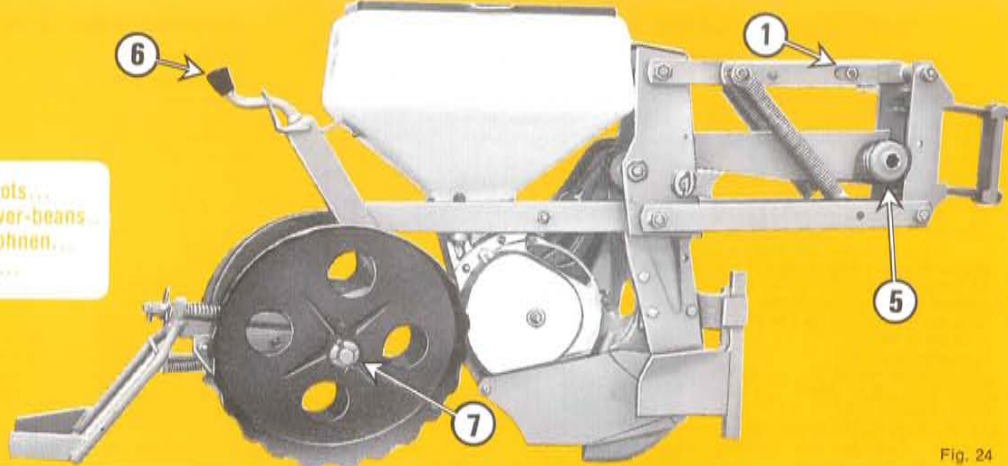

Fig. 24
VERSION de base A type MAÏS (fig. 24)
BASIC VERSION « A » : CORN-MODEL (fig. 24)
- on the corn version (fig. 24 - 27 - 28) this pin remains in position (normally articulated parallelogram)
- fitted diagonally as on fig. 24, they stabilize the metering units in both directions.
Grundausrüstung A Typ MAÏS (Abb. 24)